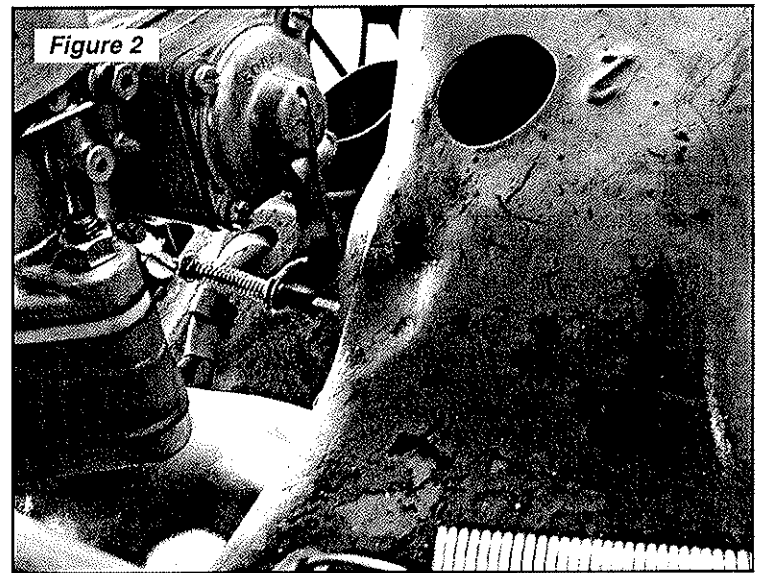

Figure 2
2. Install carburetor mounting studs into manifolds. Place carburetor gaskets onto manifolds and install left (drivers side carburetor). Fasten using M8 nuts and lock washers from the kit. Before the right carburetor is installed a dimple must be made in the cylinder tin to provide clearance for the accelerator pump arm (See **Figure 2**).